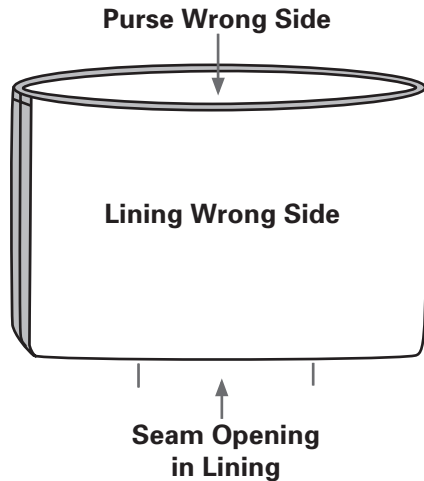

Fig. 6-5
- Turn the purse right side out, but do not turn the lining right side out. With right sides facing, place the purse inside the lining. Evenly align the upper edges and the side seams. Pin the upper edges together. Stitch the upper edges together through all layers. (Fig. 6-5)